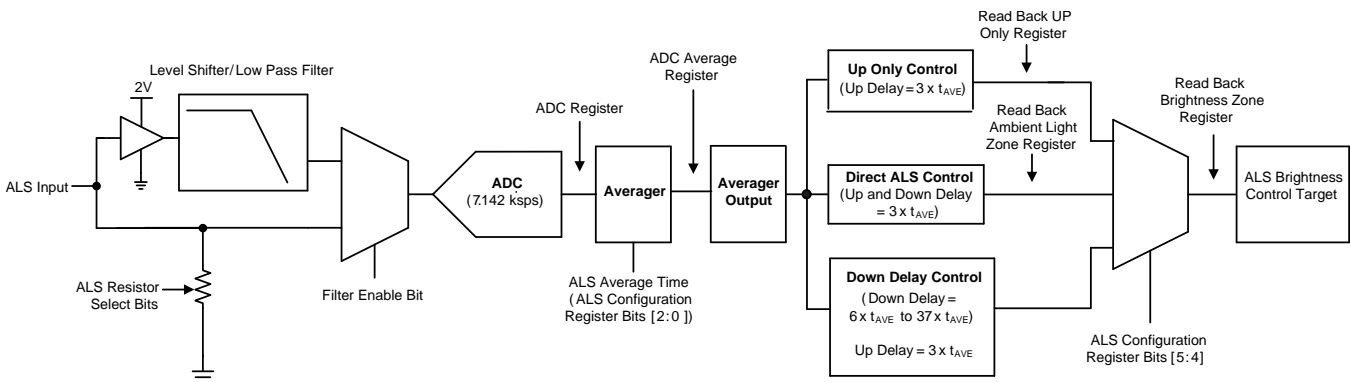

Figure 27. ALS Block Diagram
Figure 27 shows the functional block diagram of the LM3533 device ALS interface.
Once digitized the output of the ADC is sent into the ALS averager. The averager computes the average of the number of samples taken over the programmed average period. The ALS average times are set via bits [5:3] in the ALS Configuration Register. The output of the ALS average can be read back via the ADC Average register (address 0x38). With the ALS Enable bit set, the ADC Average register is updated after each average period (see Figure 28). After every average period the Averager Output stores the information for which brightness zone the ALS input voltage resides in (see Figure 27).
5. The Averager Output (see Figure 27) contains the zone that is determined from the most recent full average period.